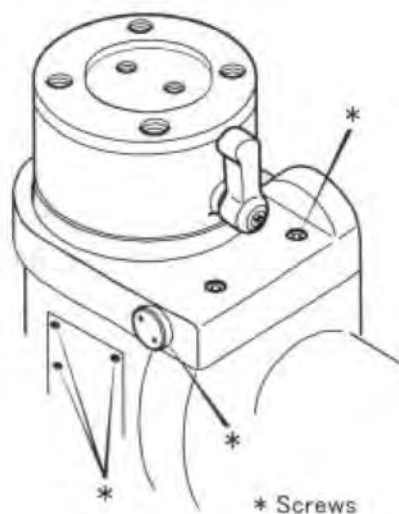

Fig. 7
2. Do not turn or adjust the screws. Doing so will make the mount out of proper function. Refer to Fig.7.